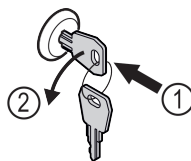

Fig. 206
- ▶ Insert the key. Fig. 206 (1)
- ▶ Turn the key anticlockwise by 90°. Fig. 206 (2)